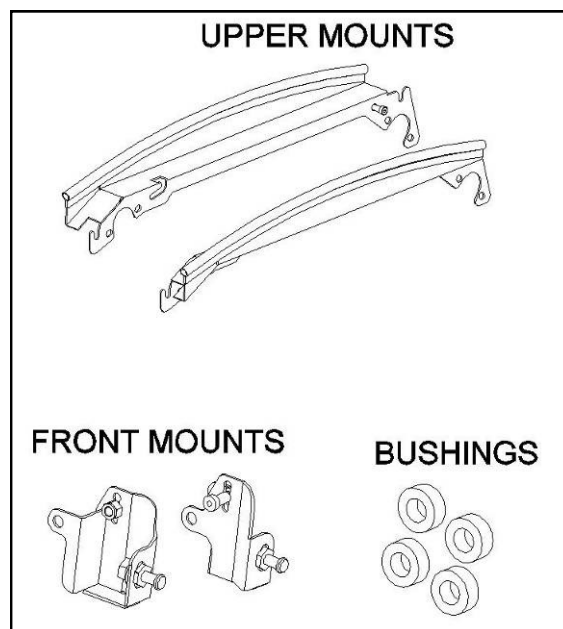

Fig. 1.1 (contents of mount kit)
1.1 If installing just a roof by itself, use just the upper mounts shown in figure 1.1 (not the front mounts or the bushings). If installing a windshield or doors, use all the mount kit components shown in fig. 1.1.